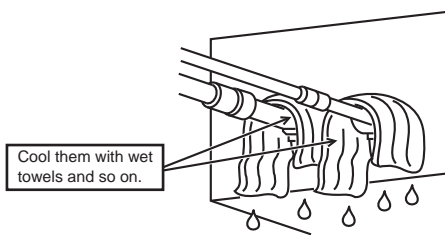

Fig. 7-1
- Before brazing the refrigerant piping, always wrap the piping on the main body, and the thermal insulation piping, with wet towels to prevent heat shrinkage and burning the thermal insulation tubing. Take care to ensure that the flame does not come into contact with the main body itself. (Fig.7-1)